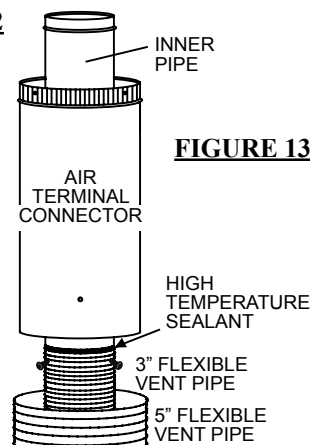

FIGURE 13
2. Stretch the 3" flex vent pipe to the required length. Slip the 3" flex vent pipe a minimum of 2" over the inner pipe of the air terminal connector and secure with 3 #8 screws. Seal using a heavy bead of high temperature sealant W573-0007 (not supplied). Figure 13.
3. Repeat using the 5" flex vent pipe, using a heavy bead of high temperature sealant W573-0002 (not supplied). Figure 13.